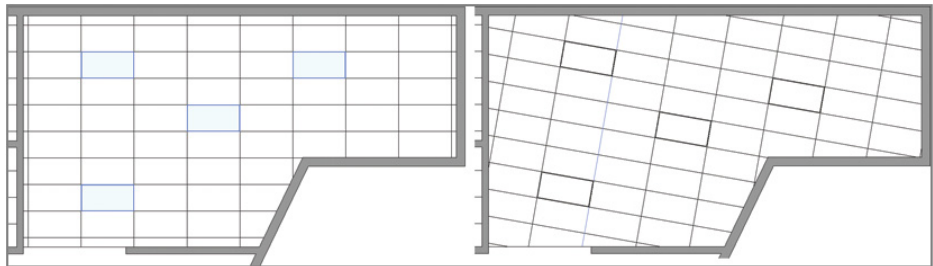

FIGURE 3.38 Placing lights and rotating the grid
4. Use the Copy tool on the Modify panel to copy the first light based on the intersection of the ceiling grid. All the lights are shown in Figure 3.38 on the left.
This technique is incredibly helpful for maintaining design coordination. The finished condition is shown on the right in Figure 3.38.